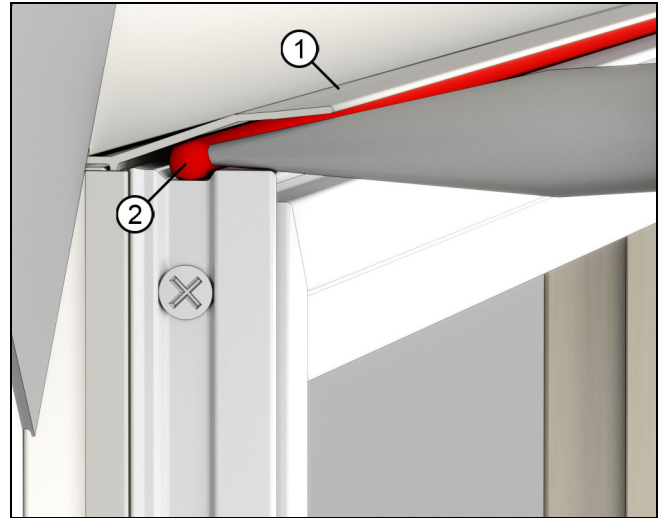

Figure 9
2. If using the factory applied vinyl drip cap, make sure it extends about 1/8" (3) beyond the edge of the window on each side.
3. Apply a bead of sealant beneath the vinyl drip cap along the top of the head jamb as shown in Figure 9